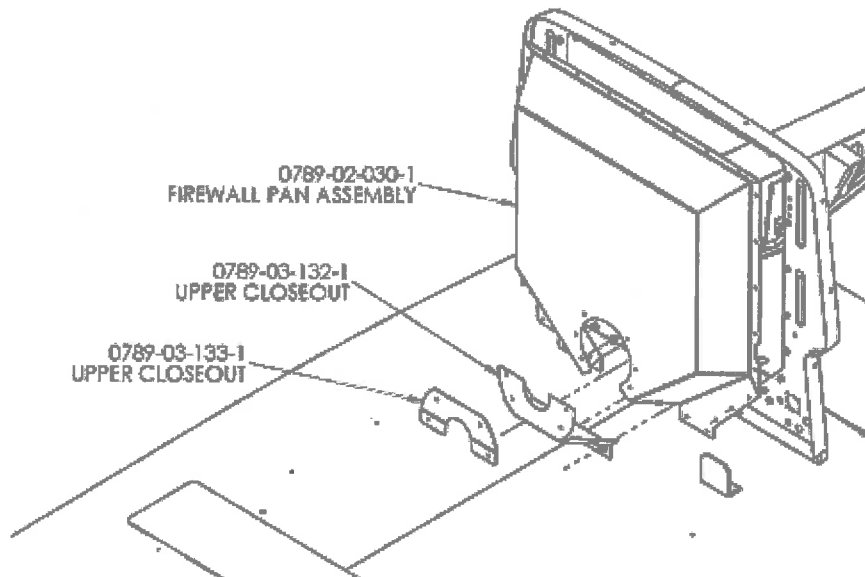

Figure 1: Firewall Pan Installation
1. Gain access to the 0789-02-030-1 Firewall Pan Assembly IAW Chapter 63 of the Instructions for Continued Airworthiness ICA-E407-789. See Figure 1.